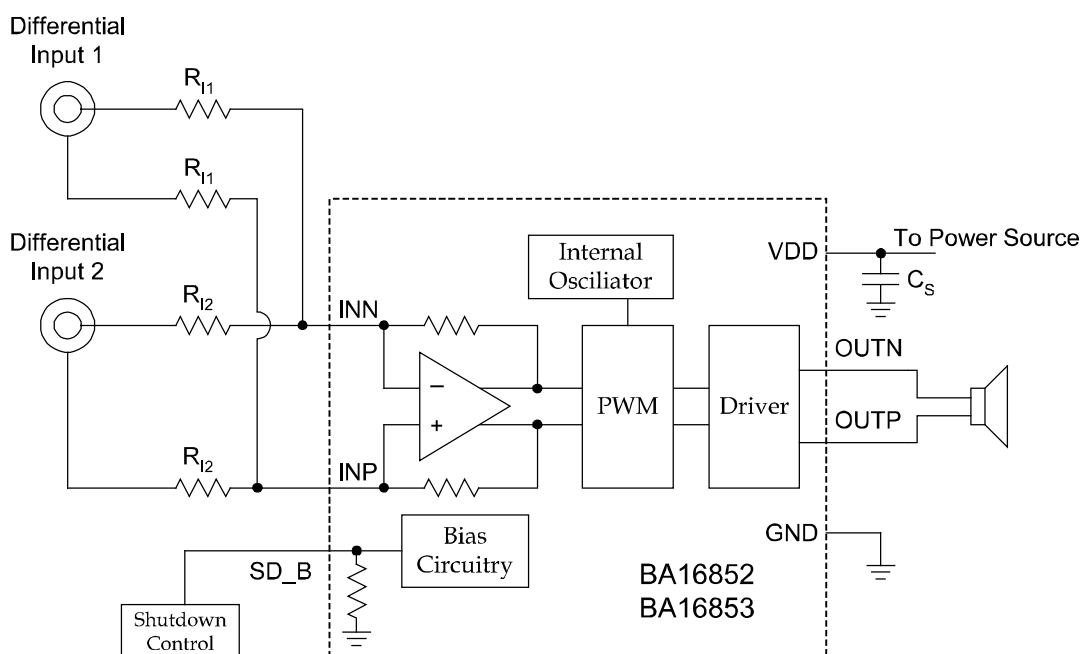

Figure 29. Dual Differential Input Configuration
The BA16852 / BA16853 can be used to amplify more than one audio source. Figure 29 shows a dual differential input configuration. The gain for each input source can be set independently according to Equation (3) and (4).